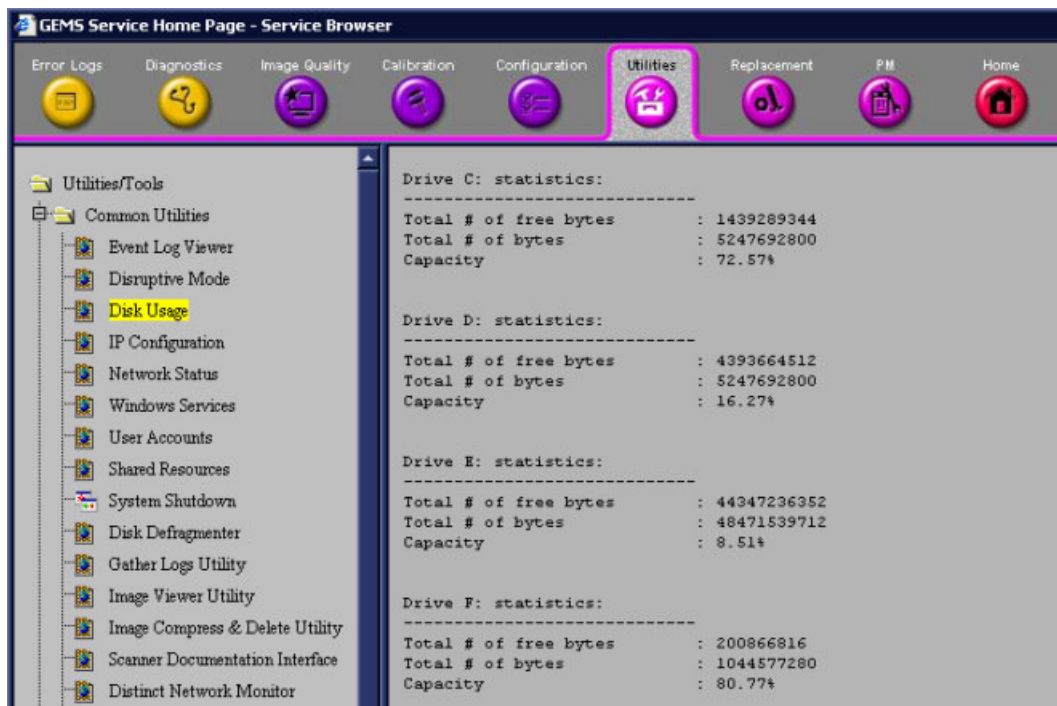

Figure 7-124 Disk Usage
- **Disk Usage** - displays available disks and their utilization in the system - see Figure 7-124.